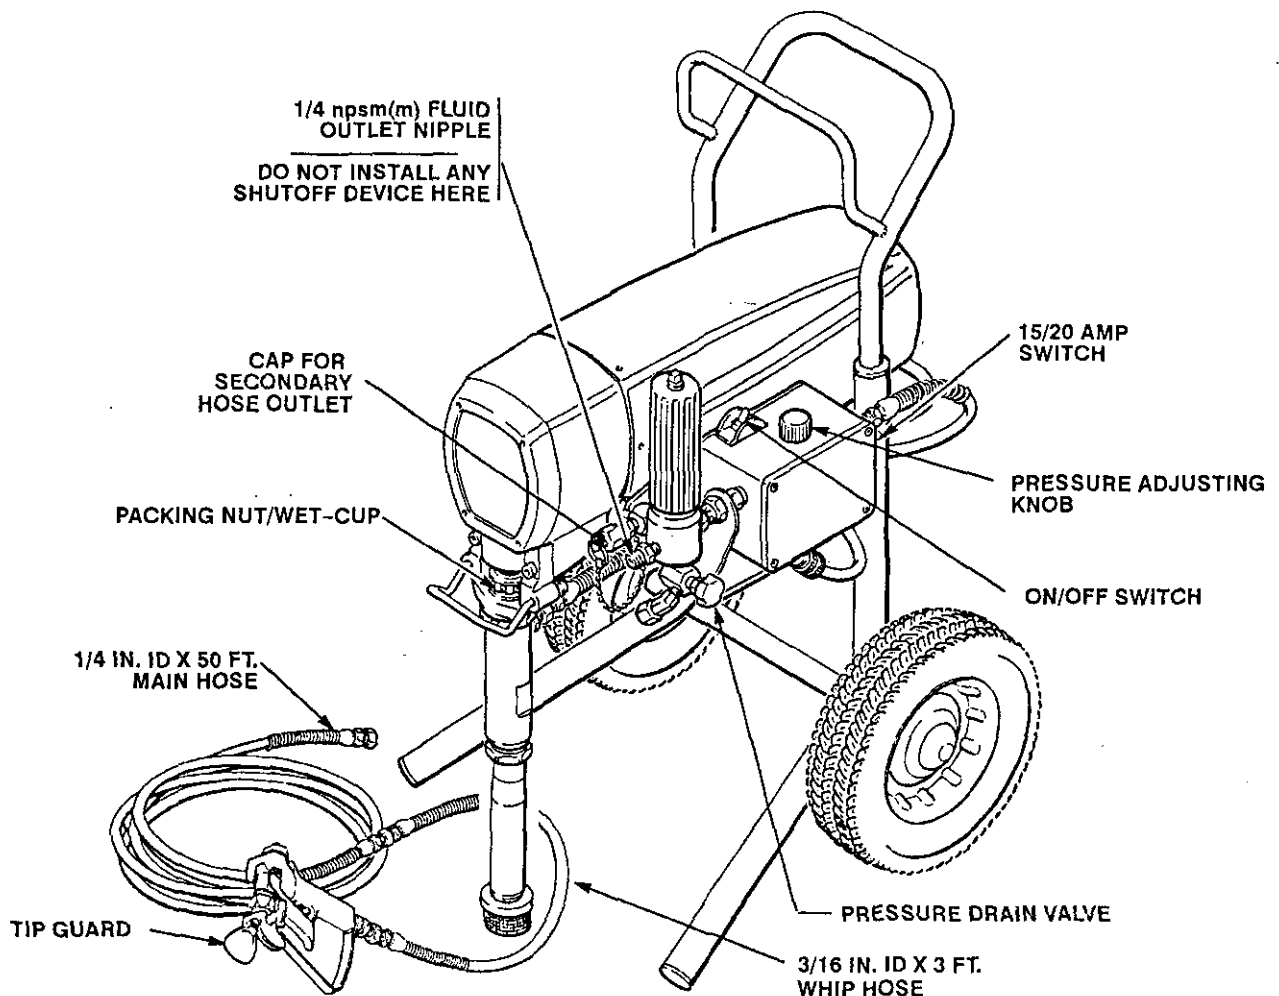

Fig 8-1
3. Never install any shutoff device between the filter and the main hose. See Fig 8-1.